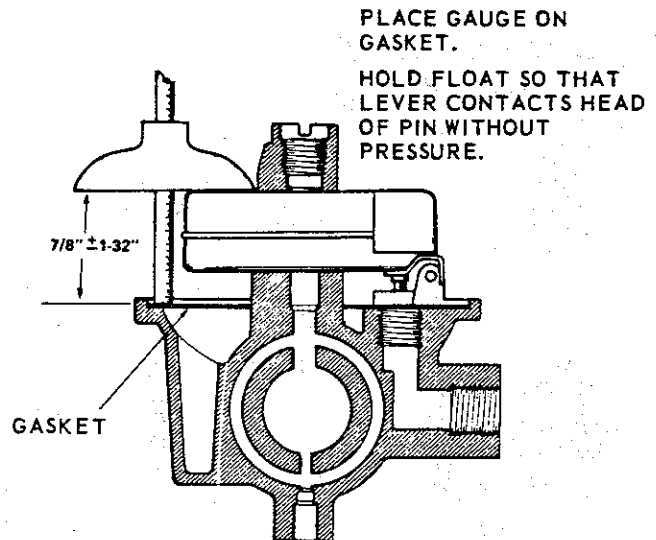

Fig. 5, FLOAT SETTING
1. With fuel bowl removed, set depth gauge to dimension recommended in illustration, Fig. 5.
3. Place depth gauge in position as illustrated in Fig. 5.